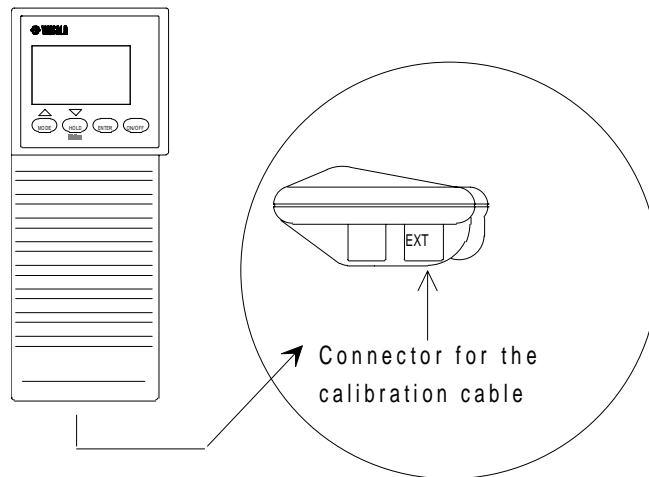
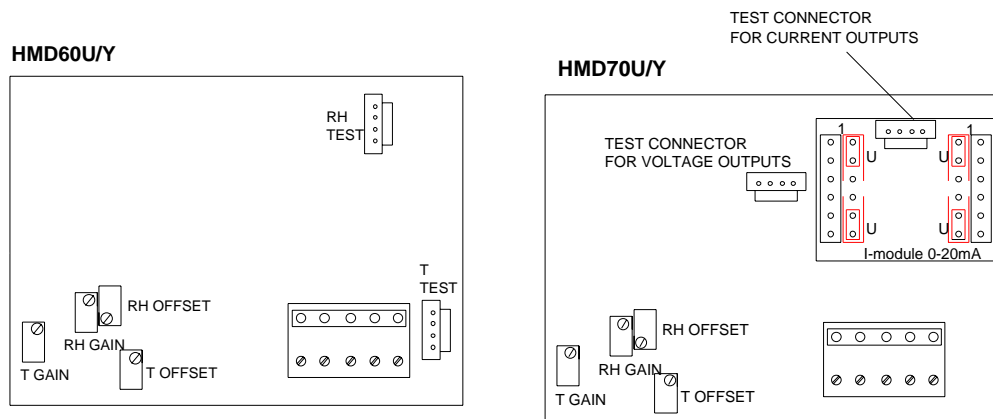

Figure 3.1 Location of the HMI41 calibration connector
Figure 3.2 Calibration connectors and potentiometers in the HMD60 and HMD70 transmitters
After having selected the desired function (Chapter 1.2) and necessary scale selections (Chapter 2), turn the HMI41 off and connect the calibration cable to the EXT connector at the bottom of the HMI41 (see Figure 3.1) and to the appropriate connector in the transmitter (see Figures 3.2 - 3.4).
When performing the humidity calibration of the HMD/W60 transmitters, make sure that the calibration cable is connected to the RH test connector (Figures 3.2 and 3.3).
- Wait until the readings have stabilized and adjust the calibration potentiometers (Figures 3.2 - 3.4) until the readings on the first and the second line are the same. It is recommended to use the offset potentiometer if the RH is <65 %RH and the gain potentiometer if the RH is ≥ 65 %RH.
- Wait until the readings have stabilized and adjust the calibration potentiometers (Figures 3.2 - 3.4) until the numbers on the first line are at zero. It is recommended to use the offset potentiometer if the RH is <65 %RH and the gain potentiometer if the RH is ≥ 65 %RH.
When performing the temperature calibration of the HMD/W60 transmitters, make sure that the calibration cable is connected to the T test connector (Figures 3.2 and 3.3).
- Wait until the readings have stabilized and then adjust the calibration potentiometer (Figures 3.2 - 3.4) until the readings on the first and the second line are the same. It is recommended to use the offset potentiometer.
- Wait until the readings have stabilized and then adjust the calibration potentiometer (Figures 3.2 - 3.4) until the numbers on the first line are at zero. It is recommended to use the offset potentiometer.